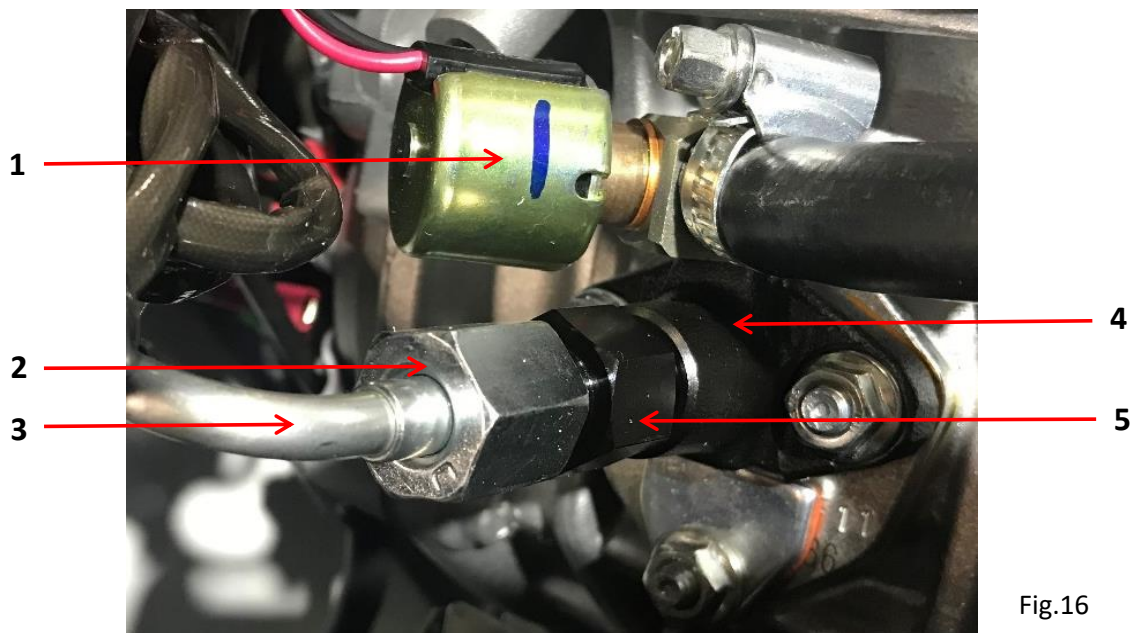

Fig.16
**Fig.16** below shows the fuel injection pump.